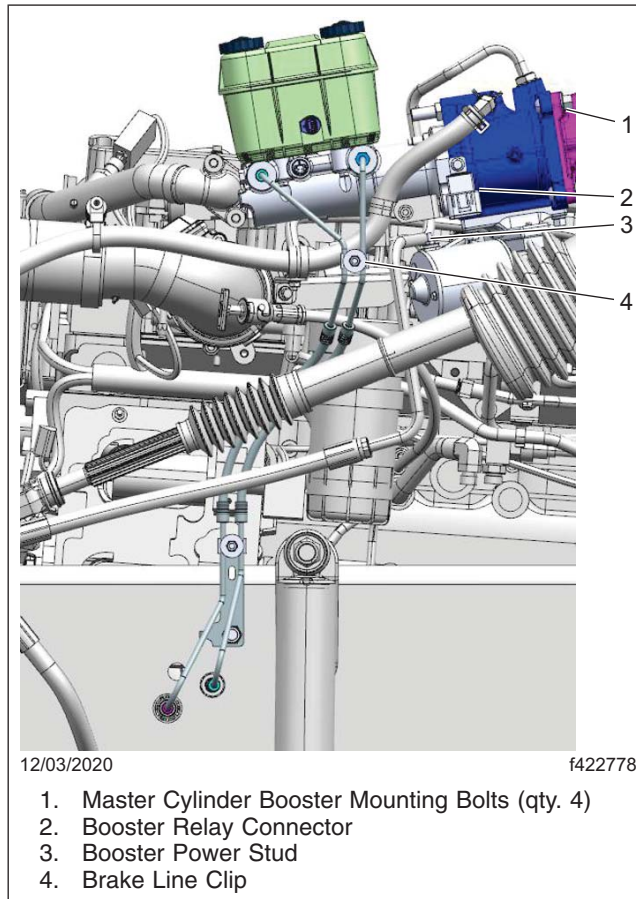

Fig. 10, Booster Connections
4. To remove power from the power wire and stud on the brake motor, unplug the brake relay connector from the brake relay mounted to the Hydromax, located at the bottom-left of the adaptor plate. See **Fig. 10**.